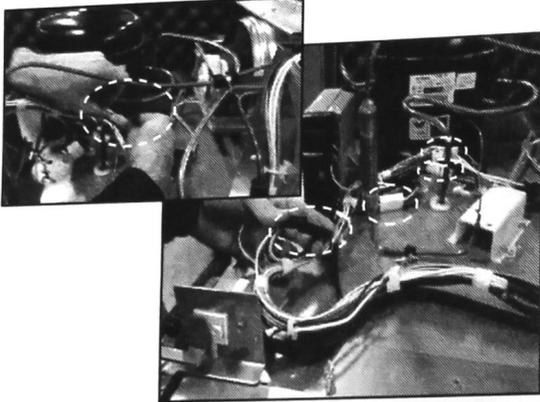

FIGURE 21
22. Connect all connectors, starting with the five connectors near the compressor side disconnected in step 6. See Figure 21.